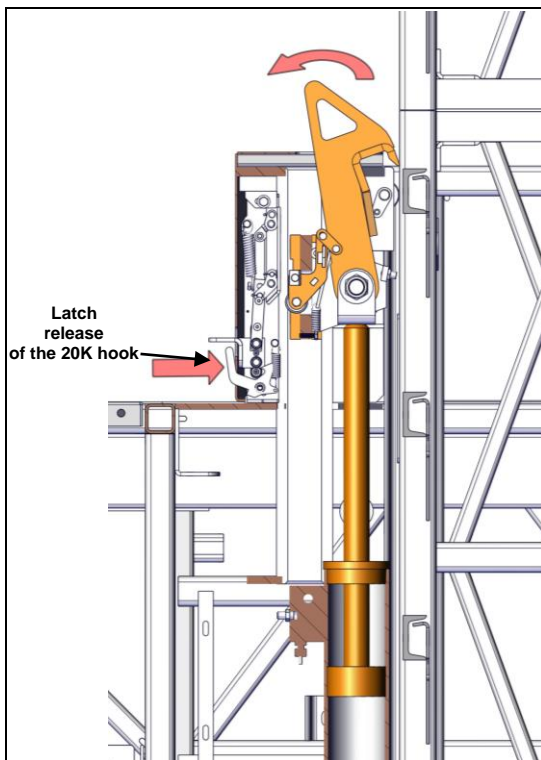
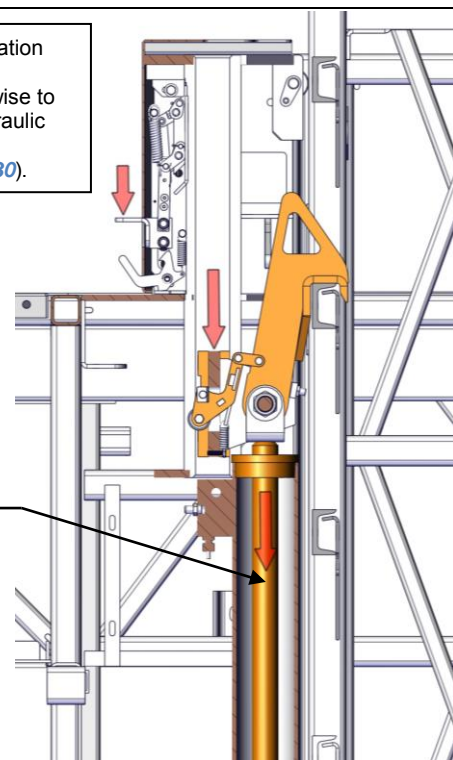

Figure 39 – (Descent)
Figure 40 – (Descent)
- 11- Kick the « Latch » (see Figure 31 and Figure 39) to activate the « DOWN » position
- 12- Turn the « 20K operation pivot » (see Figure 30) counterclockwise to raise the platform until the cylinder is fully closed (see Figure 40).
- 10- Kick the « Latch » (see Figure 31 AND Figure 39) to activate the « DOWN » position
- 11- Turn the « 20K operation pivot » (see Figure 30) counterclockwise to raise the platform until the cylinder is fully closed (see Figure 40).
Figure 39, Figure 40 and Figure 41 illustrate the inner workings of the platform while it is being lowered.